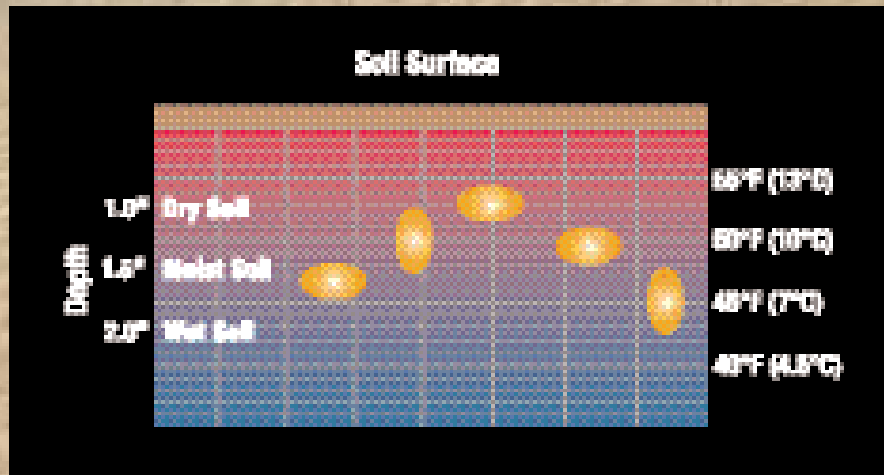

FIGURE 1. Seeds planted at different depths are exposed to different soil temperatures and moisture contents.
- **Planting depth has an important impact** on the successful germination and even emergence of your crop because of interactions with soil temperature and moisture. (see Figures 1 and 2)